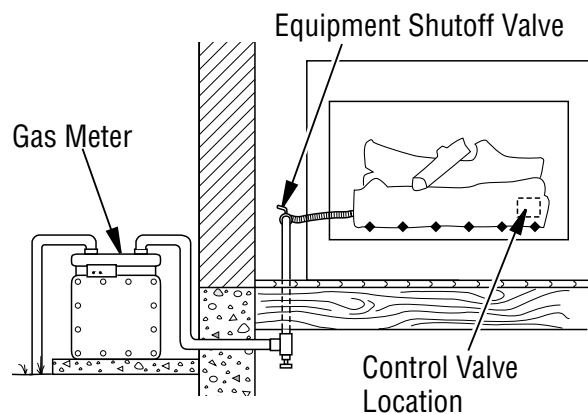

Figure 16 - Checking Gas Joints for Natural Gas
3. Check all joints from gas meter to equipment shutoff valve for natural gas or propane/LP supply to equipment shutoff valve for propane/LP (see **Figure 16 or 17**). Apply a noncorrosive leak detection fluid to gas joints. Bubbles forming show a leak.
4. Check all joints from equipment shutoff valve to control valve (see **Figure 16 or 17**). Apply a noncorrosive leak detection fluid to gas joints. Bubbles forming show a leak.